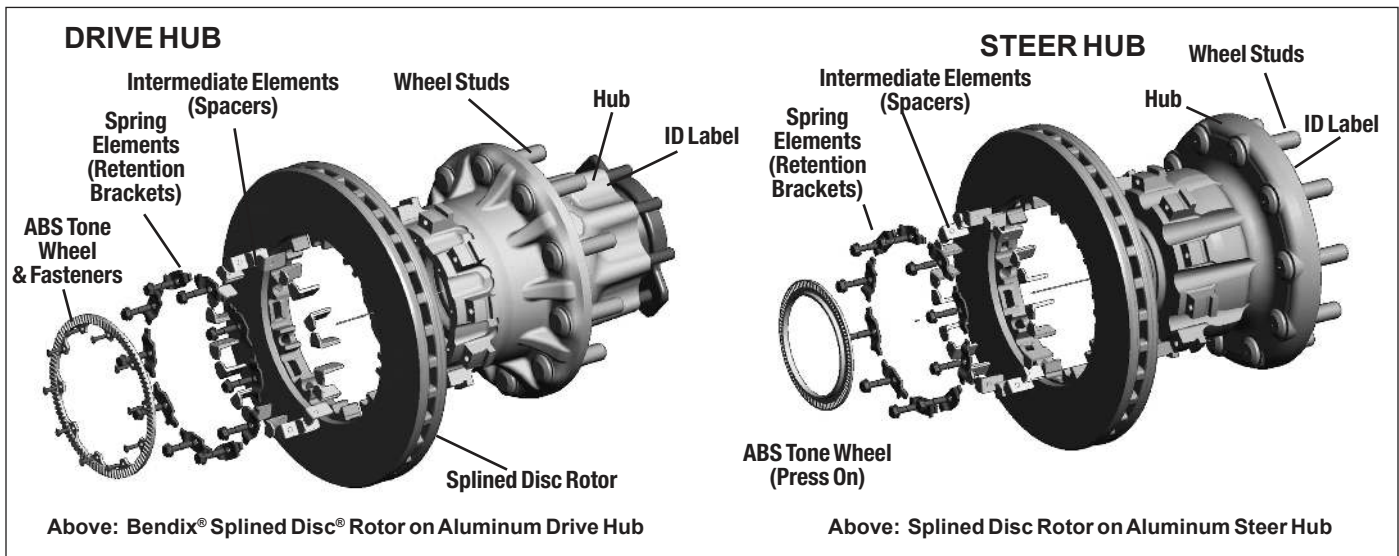

Figure 87 – Splined Disc Rotor Examples - Exploded Views
5.7.7 On drive axles, the ABS tone ring must also be removed. (See Figure 87.) Retain for reinstallation.